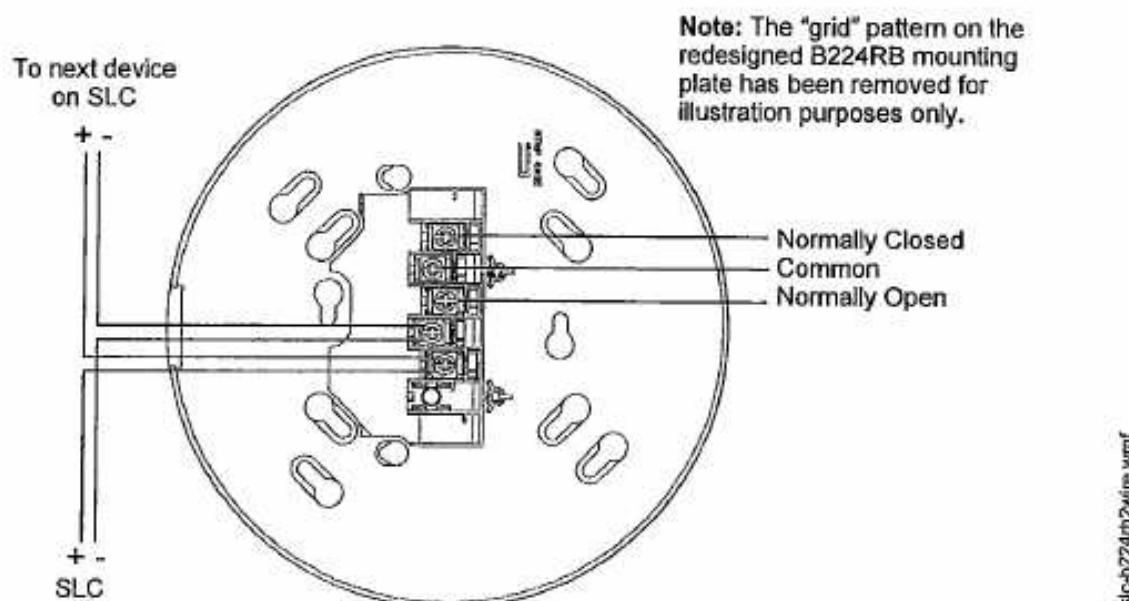

Figure 10.6 Wiring of a B224RB or 14507371-003 Relay Base Mounting Plate
- B224RB (FlashScan/CLIP, plug-in relay detector base; Figure 10.6)
- 14507371-003 (FlashScan/CLIP, plug-in relay detector base; Figure 10.6)
Figure 10.6 shows typical wiring of the B224RB or 14507371-003 plug-in relay detector base connected to an SLC.